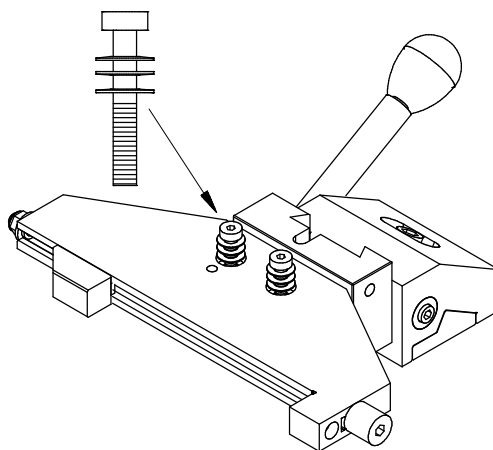

Figure 3
STEP 4. PREPARING THE CLAMP SCREWS Insert each clamp screw into three Belleville springs back-to-back, front-to-front, properly as shown as shown in Fig 3.
STEP 5. Place the work holder, in this case a V06 six inch vise, over the matching holes of the TD03 and allow the cam and ball bearing to seat into place as shown in Fig. 3.